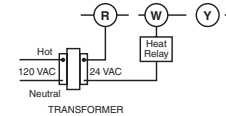

Figure 5. Typical wiring for single transformer heating system
- For two wire systems (Heat Only or Cool Only).** Replace subbase with wallplate. If you have a two-wire **Heat Only** system, attach one wire to **R** and one to wire **W**. If you have a two-wire **Cool Only** system, attach one wire to **R** and one to wire to **Y**. Tighten any unused terminals securely. (see Fig. 5 and 6).